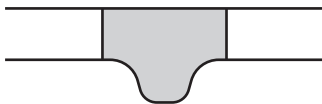

Fig. 2.1
- (a) Select a field of view so that you can observe the different tissues as shown by the shaded area in Fig. 2.1.
- (i) Draw a large plan diagram of the part of the leaf on L1 shown by the shaded area in Fig. 2.1.